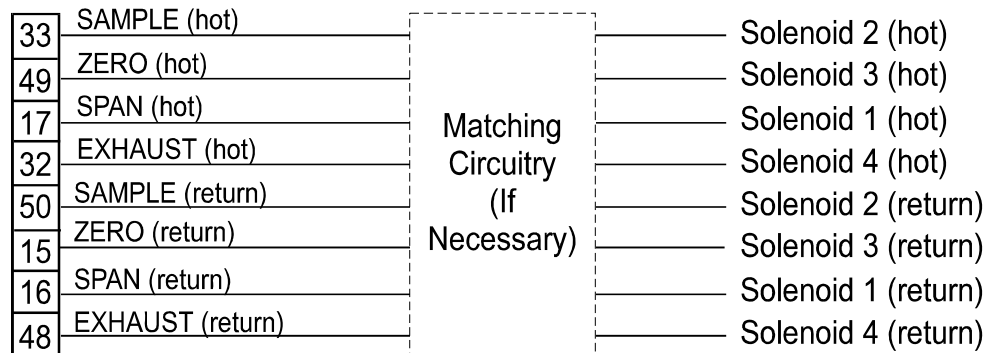

Figure 3-5: Remote Probe Connections
**Span:** Floating input. 5 to 24 V input across the + and – pins puts the analyzer into the *Span* mode. Either side may be grounded at the source of the signal. 0 to 1 volt across the terminals allows *Span* mode to terminate when done. A synchronous signal must open and close external span valve appropriately. See Figure 3-5 *Remote Probe Connector*. (The –C option internal valves operate automatically.)
**Remote Valve Connections:** The 3000TA-XL is a single-chassis instrument, which has no Remote Valve Unit. Instead, the Remote Valve connections are used as a method for directly controlling external sample/zero/span gas valves. See Figure 3-5.